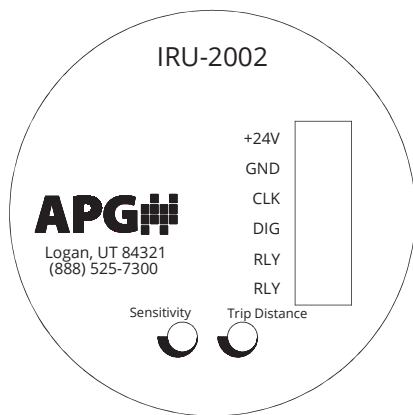

Figure 2.1
Potentiometers for setting or adjusting *Trip Distance* (IRU-2002 only) and *Sensitivity* (IRU-2002 and IRU-2003) are located inside the sensor housing along with terminal strips (See Figures 2.1 and 2.2). Both settings can also be controlled via the I2000SWR software (See Figure 3.3).
- For IRU-2002 and IRU-2003 sensors, system wiring must be connected to internal terminal strups prior to physical installation. (See Figures 2.1 and 2.2)
For IRU-2002 sensors, *Sensitivity/Trip Point Control* is used to select between potentiometer or software control of *Sensitivity* and *Relay Trip Point*. (See Figure 2.1)